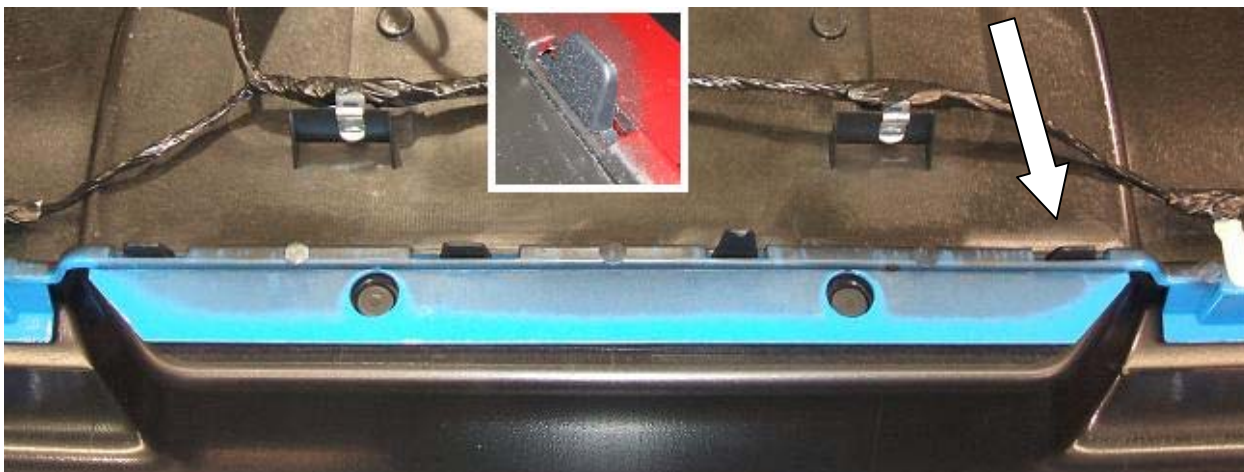

Figure 11
20. Position the ROUSH Lower Valance to the factory rear fascia. Starting at the right center, (see arrow in Fig. 11) snap the twelve (12) tabs on the Lower Valance to the slots in the rear fascia. Refer to Figure 11. The four (4) center tabs are shown. The other 8 (out of view) are similar. Ensure all twelve (12) are fully engaged. Refer to Figure 11 inset.